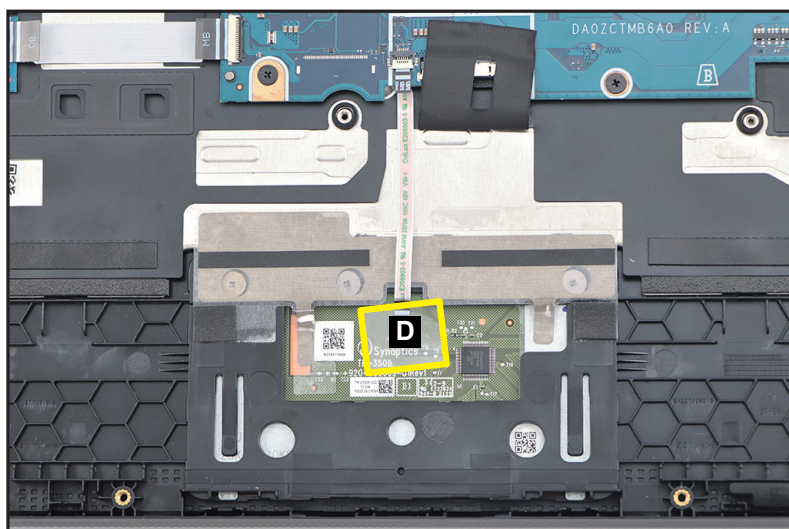

Figure 1-13. Touchpad Module Removal
3. Detach the mylar (D) securing the touchpad FFC connection (Figure 1-13).